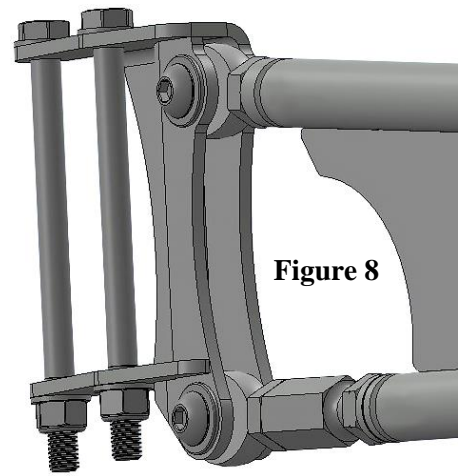

Figure 8
8. Install the rear axle mount to the rod ends using one 5/8" button head bolt with two washers and one nyloc nut per connection. **(Figure 8)** Torque to 135 lb. ft.